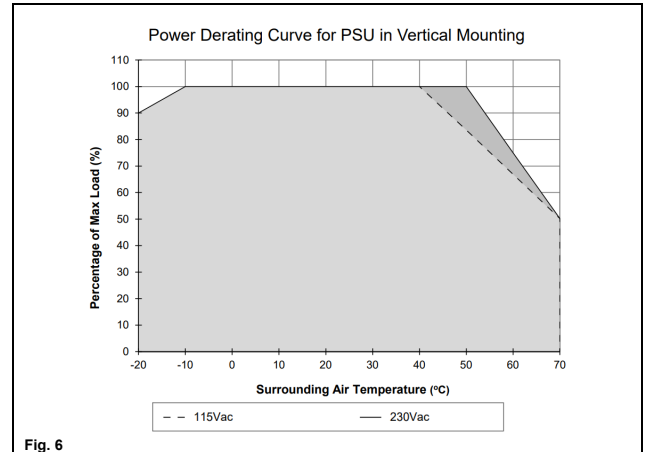

Fig. 6
5.4. Thermal behavior (Fig. 6)
If the output capacity is beyond what is recommended in Fig. 6, the device will run into thermal protection by switching off i.e. the output voltage will go into latch-off mode until the component temperature cools down and the AC power is recycled.
Operating temperature	-20 °C ... +70 °C (Refer to Fig. 6)